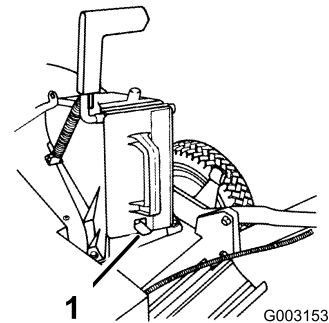

Figure 7
3. Push the plug all the way in until the spring clip on the bottom of the plug clicks into place, locking the plug securely into the discharge tunnel (Figure 7).